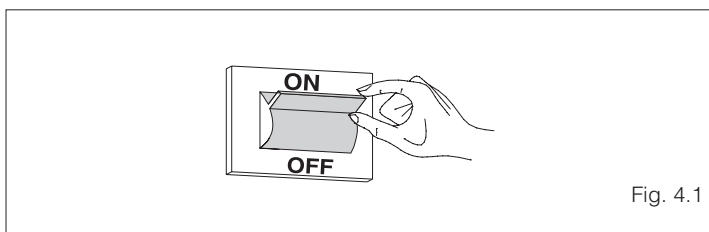

Fig. 4.1
- Turn the boiler's mains power switch ON (fig. 4.1)